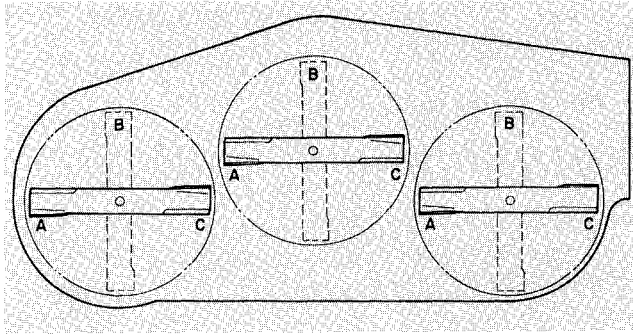
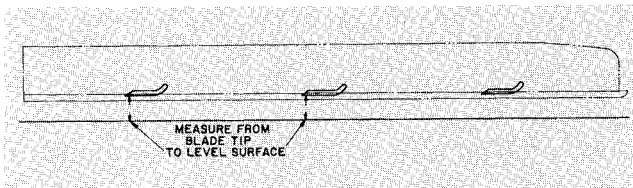

Figure 12
Figure 13
4. Position all three blades in the "A" position (Fig. 13) and measure from level surface to the bottom of the tip end of each blade (Fig. 13).
5. Note measurement attained at "A", rotate blades to "B" position (Fig. 12), measure distance of all blades to level surface and note dimensions (Fig. 13).
6. Rotate blades to "C" position, measure and note distance measured (Fig. 12, 13).